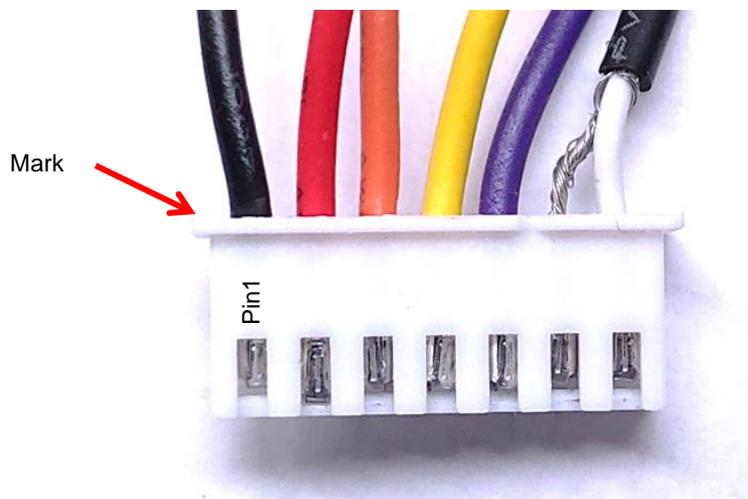

Figure 5
- Push the prepared cables with the contacts into the 7-pin connector housing in the order shown in Figure 5.